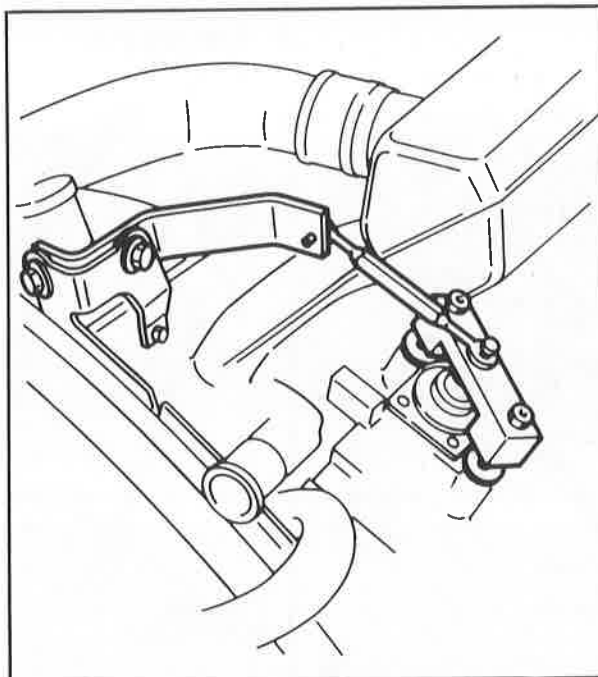

Figure 26 Injection Pump Timing Adapter
13. If timing is out of specification, install timing adapter T84P-9000-B or equivalent, on injection pump (Fig. 26).